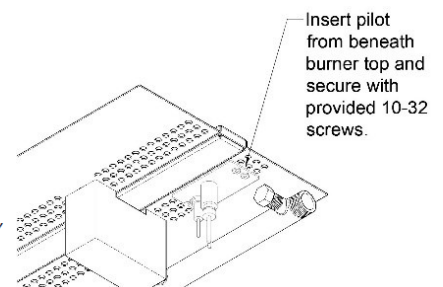

FIGURE 45
- 11) Insert the pilot assembly from underneath the existing burner pan to the area of the removed burner section. **(Figure 45)**